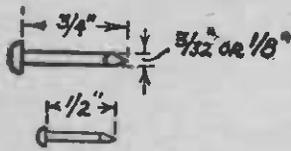

FIGURE 9
**F. SWITCH POINTS AND STOPS (Figure 9).** The switch points are made from 12 brass pins with heads surfaced off with a file or in a lathe. This work requires accuracy to insure smooth operation of switch blades. The switch stops are made from four small brass pins.